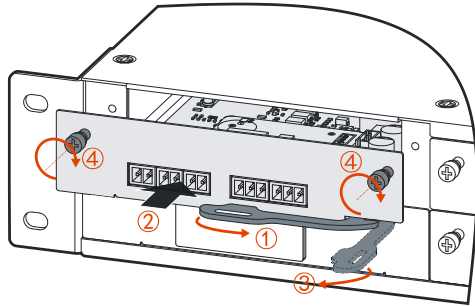

Figure3-18 Install the dry contact expansion card
Step 2 Install the dry contact expansion card on the system monitor box, as shown in Figure3-18.